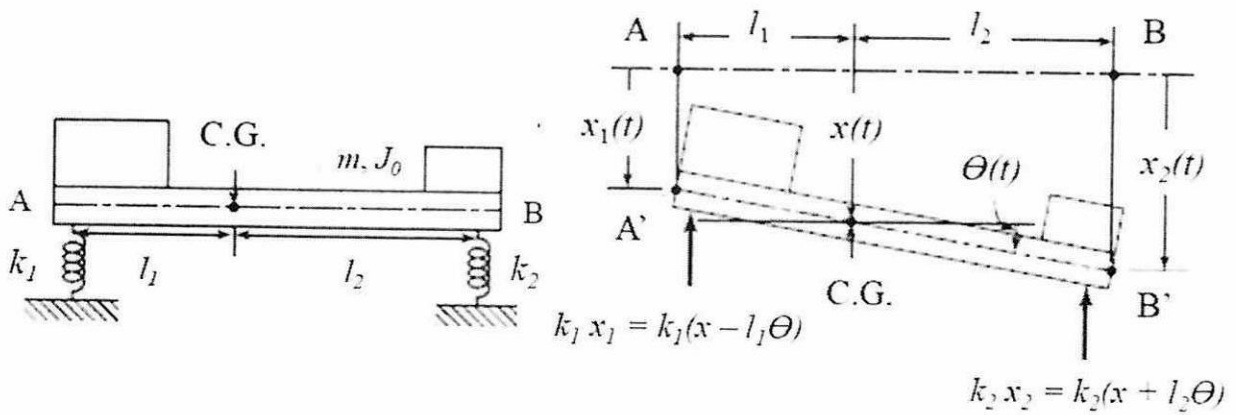

Figure Q5
**Q5** (a) **Figure Q5** demonstrates the simplified model of a lathe machine. Using Lagrange's equations with  $x$  and  $\theta$  as generalized coordinates, prove that the equation of motion for the system as :